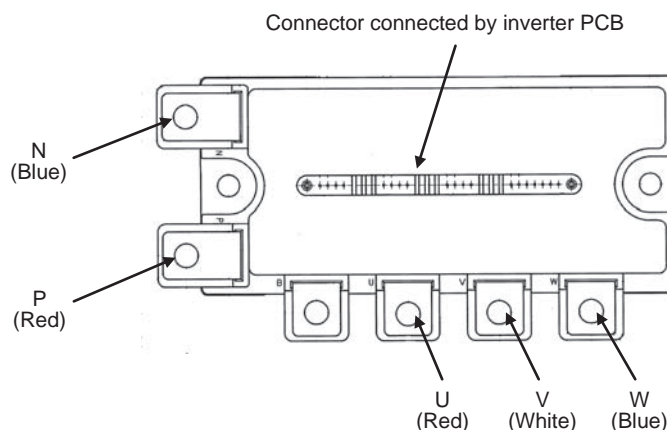

Fig.1 Parts arrangement view
3. Disconnect with the wire (U, V, W, P, N) to the transistor module. (Refer to Fig.1 Parts arrangement view)